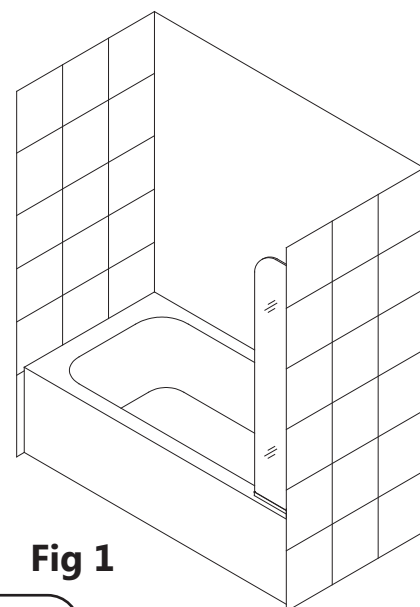

Fig 1
**NOTE:** Use **Parts Diagram "A"** for the **EX panel** assembly and installation. (Fig 1)